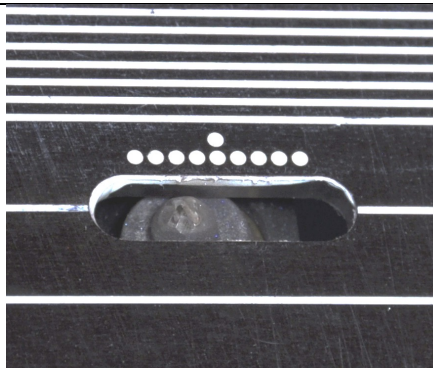

Figure 23 Set the tilt by adjusting the tilt adjustment knob
29. Set the default angle using the white tilt alignment indicators as a guide (Figure 23).
31. While observing the tip with a stereoscope or magnifying lamp, turn the height adjuster and align the nearest facet edge so it is horizontal. It will be aligned with the long line embedded on the tool work surface (see Figure 23).